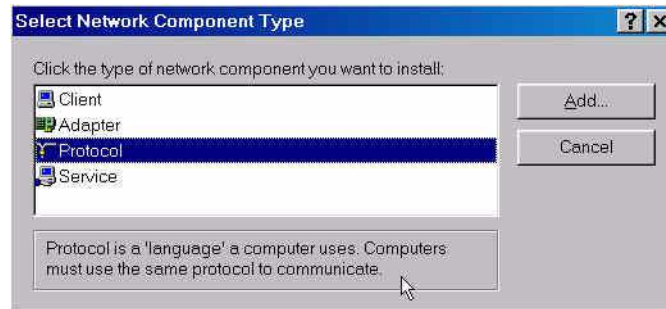

Figure 6 Select Network Component Type Window
5. Double-click the **PROTOCOL** option on the **SELECT NETWORK COMPONENT TYPE** window (Figure 6).